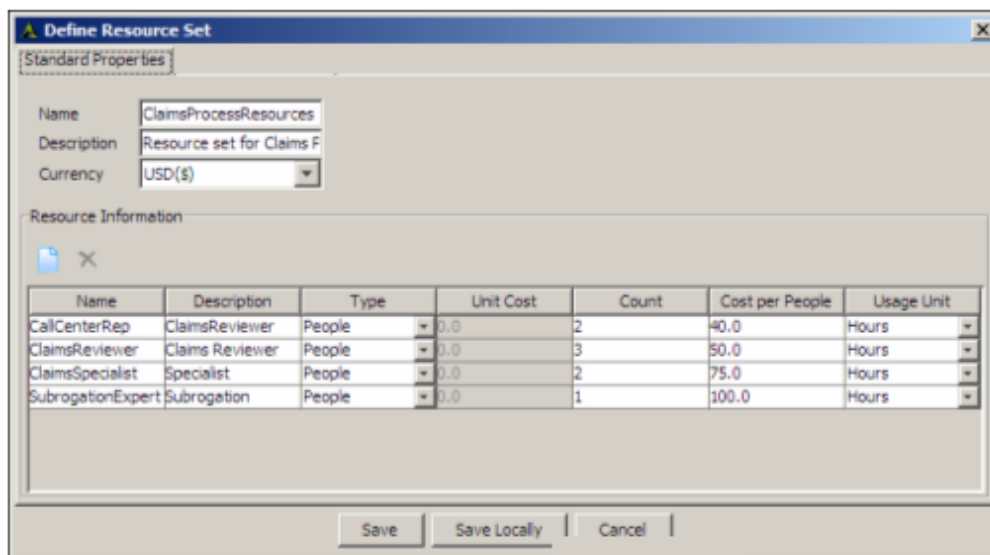

Figure 6: Claim Management Resource Set
5. Similarly, you can add more resources. There is no limit to the number of resources that can be added to a resource set. Figure 6, shows the resource set, used by Claim Management Process Model.